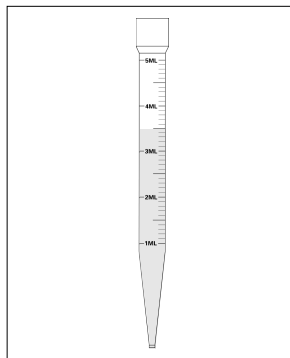

Figure 2
- g. Rotate the plunger counter-clockwise until the liquid level (meniscus) is even with the volume mark of your choice. (See Figure 2)